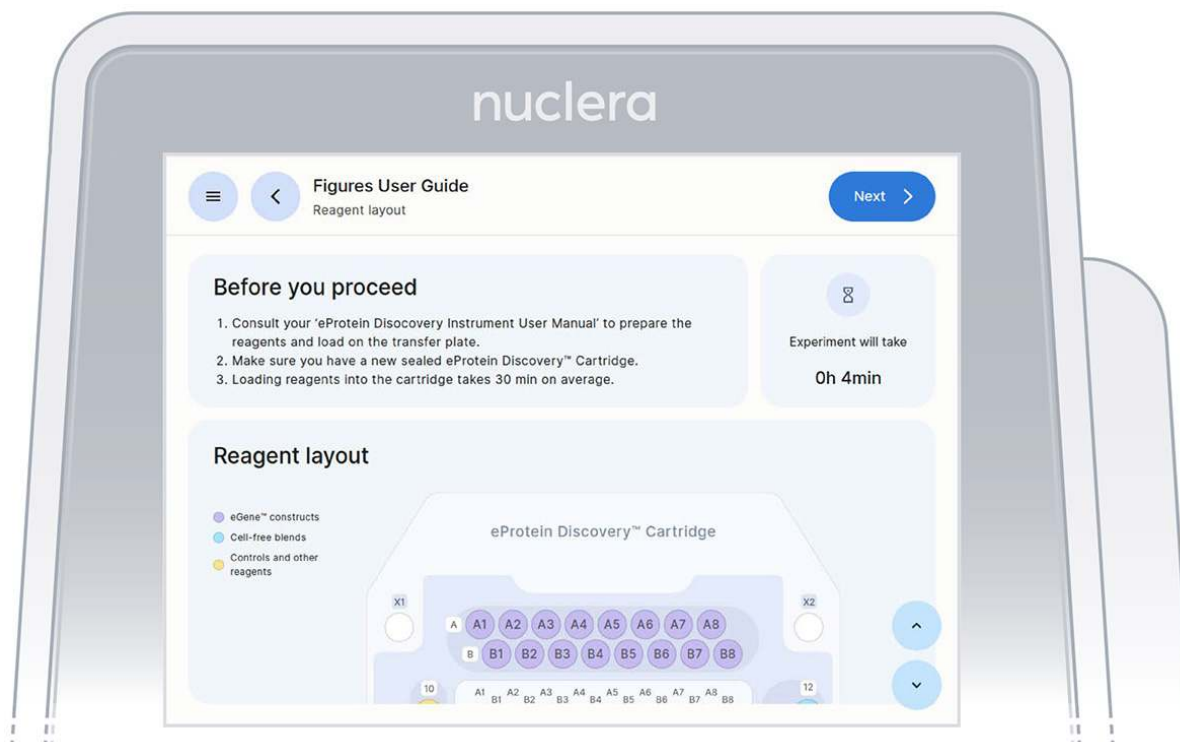

Figure 10: Summary of the selected experiment
4. Read the Before you proceed section and press the [Next] button (Figure 10).